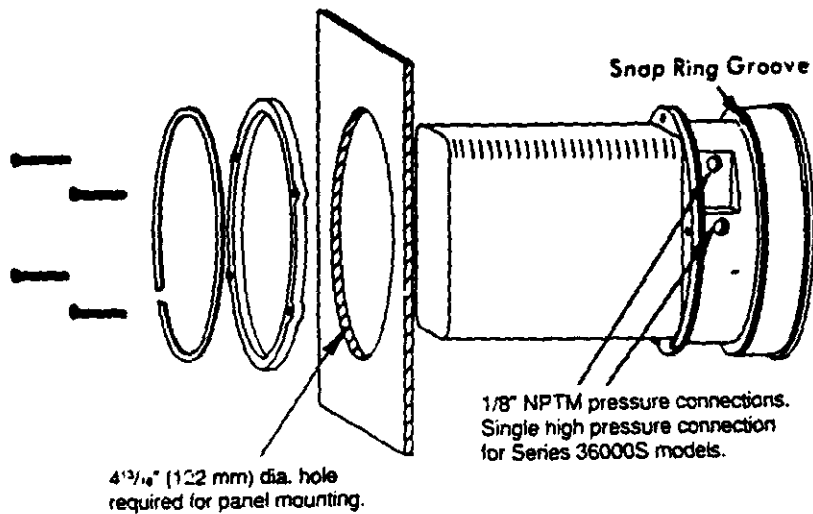

Figure 2
- A. **Panel Mounting:** Normal mounting is flush or through panel as shown in Fig. 2. Be sure to allow 4-3/8" extra space behind the unit for electrical enclosure removal. Make a single 4 3/16" diameter hole in the panel. Insert the entire PHOTOHELIC® unit from the front, then slip on the mounting ring and snap ring from the rear. Seat the snap ring in its groove, back up the mounting ring against snap ring and tighten the four (4) 2" No. 6-32 clamp screws provided. If behind panel space is critical, the amplifier-relay unit can be mounted remotely. See the Remote-Relay Mounting Instructions for details.
**B. Gage Mountings with Relays Remote:** Where it is desirable to mount the amplifier-relay unit separate from the gage-phototransistor unit, the gage may be mounted either as shown in Fig. 2 (except less amplifier-relay portion) or surface mounted as shown in Fig. 3A. Use the layout shown in Fig. 3B to locate holes. The complete package cannot be surface mounted.